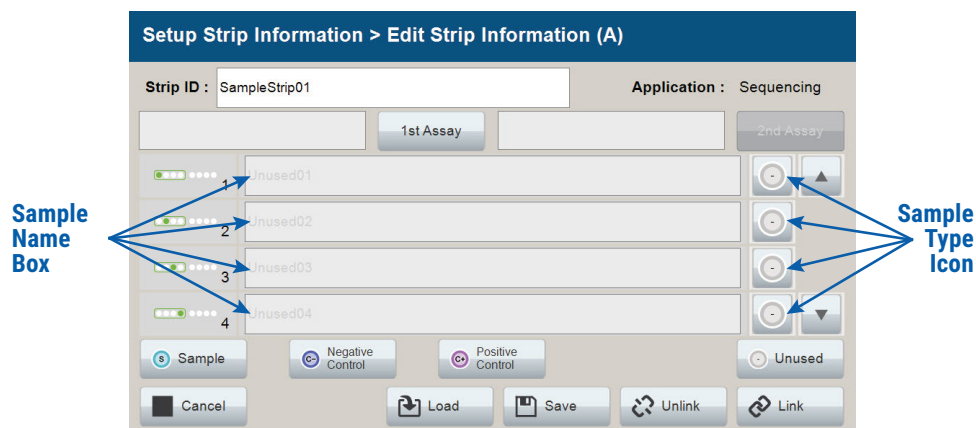
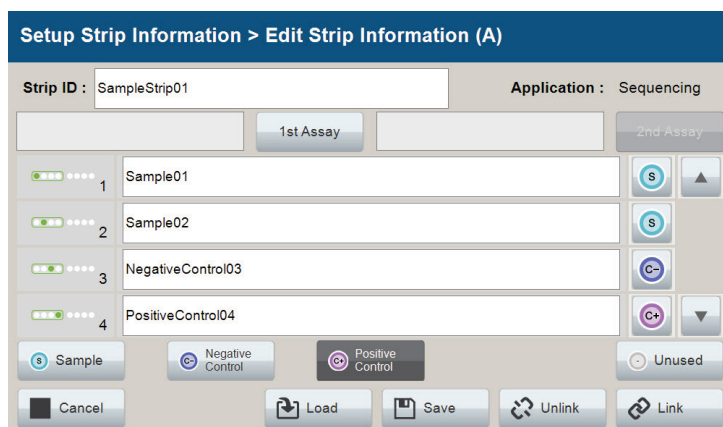
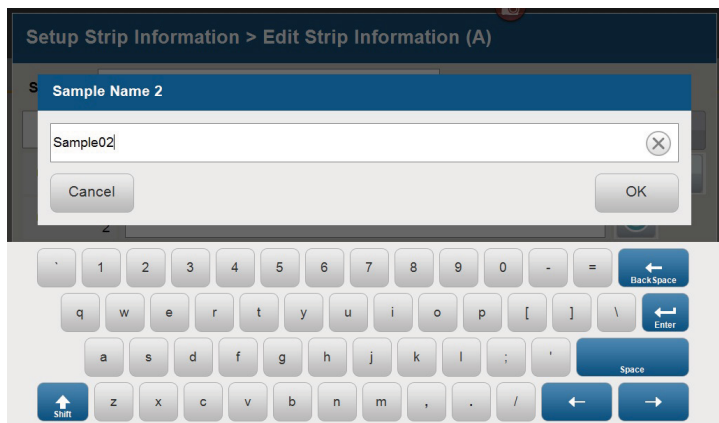

Figure 84. Sample Type and Sample Name on 'Edit Strip Information' screen.
Figure 85. Sample Name Entry on 'Edit Strip Information' screen.
Figure 86. 'Set Sample Name' window.
2. Select a sample type on the 'Edit Strip Information' screen (Figure 84). Sample types must be selected for each well position before the **Sample Name** box becomes active for entry of sample name. Sample types available for sequencing analysis are listed in the following table.
- To assign a sample type to a well, select the appropriate sample type along the bottom of the 'Edit Strip Information' screen (Figure 84), and then select the **Sample Type** icon to the right of the sample name field for the desired well. This icon will then display the sample type selected for that well (Figure 85).
- Enter a sample name for each well position by selecting the **Sample Name** box adjacent to the well number on the 'Edit Strip Information' screen (Figure 85). This opens the 'Set Sample Name' window, and a keypad will become active on the touch screen (Figure 86). Alternatively, the Sample Name can be entered using a traditional keyboard if one is connected to the Spectrum Compact CE System. Enter the appropriate sample name, and then select **OK** to exit and return to the 'Edit Strip Information' screen. The following table lists rules for characters that can be used for a sample name.
- The Spectrum Compact Control Software includes preloaded run assays for use with chemistries available from commercial suppliers. To create a new assay or modify an existing assay, see Section 7. To assign a run assay to an injection set, select **1st Assay** on the right side of the 1st Assay field (Figure 85). This opens the 'Select Assay' screen (Figure 87). Select an assay from the drop-down list using the scroll buttons to find the appropriate assay.